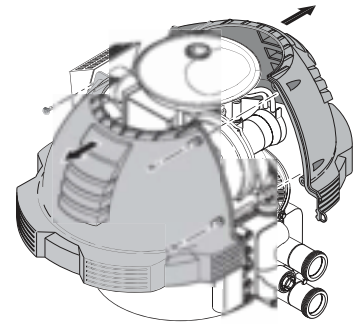

Figure 35.
1. Unbolt and remove the upper jacket halves (see Figure 35).